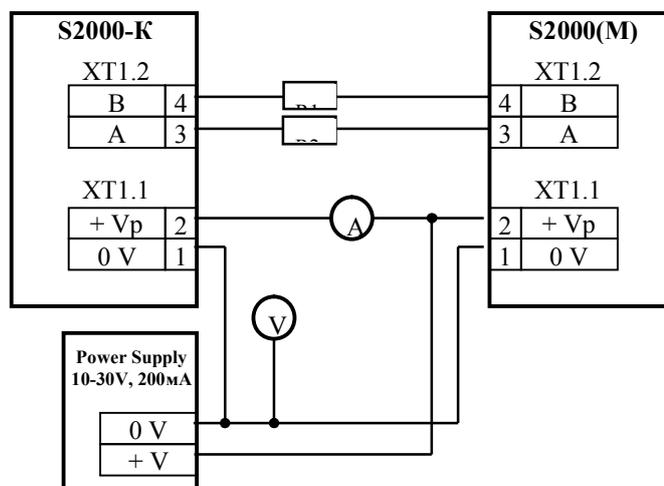

Figure 14. Wiring the S2000-K While Testing the Keypad Operability
- Test S2000-K operability having wired the keypad as shown in Figure 14. The testing procedure has been described below in this Section.
For testing operability of the S2000-K, wire the keypad as shown in Figure 14. Two resistors of 220  $\Omega$  and 0.125 W, R1 and R2, shall be brought between the S2000/S2000M console and the S2000-K keypad as shown in the diagram in order to introduce damping into the communication line between the devices.
1. Establish the test set-up as shown in Figure 14, not connecting wires of the RS-485 bus to terminal blocks of the S2000(M) console. Set the keypad power supply voltage equal to  $(10.2 \pm 0.3)$  V.
5. Press the keypad tamper switch and keep it pressed for at least 15 s; then release this one. The S2000(M) console shall receive a tamper alarm from the keypad. Then press the keypad tamper switch once more and hold it until the console receives a tamper restored notification from the keypad.